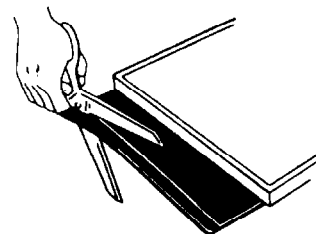

Figure 3
4. Use a pair of scissors or a utility knife to cut toe plate along line. See Figure 3.